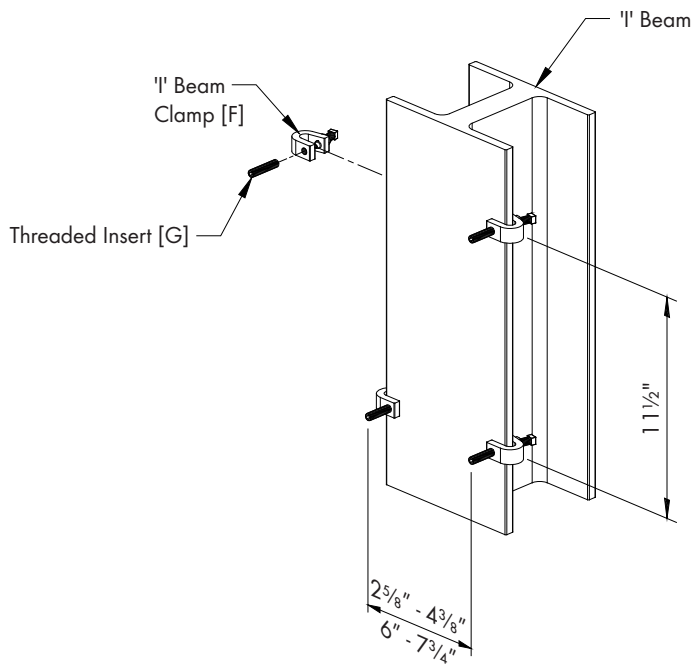

Figure 5
Thread Threaded Insert [G] into 'I' Beam Clamp [F] so it is flush on the inside of clamp. Attach (4) 'I' Beam Clamps [F] to beam by tightening square headed bolt. 'I' Beam Clamps [F] should be spaced $11\frac{1}{2}$ " center-to-center. The Threaded Insert [G] that the mounting plate assembly mounts to can be $2\frac{5}{8}$ " - $4\frac{3}{8}$ " O.C. or 6" - $7\frac{3}{4}$ " O.C. See Figure 5.